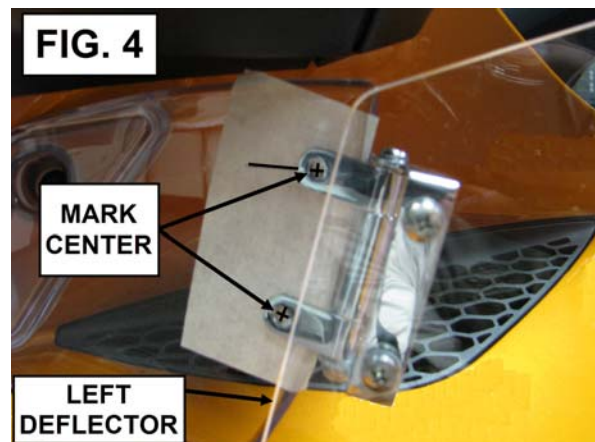

FIG. 4
5. TAKE THE LEFT ASSEMBLY AND HOLD IT ON THE FRONT OF THE OEM WIND DEFLECTOR AS SHOWN IN FIG. 4. LINE UP THE CENTER OF THE TOP HOLE WITH THE LINE YOU MARKED IN STEP 4. SLIDE IT IN SO THAT THE TUBE SPACER IS TOUCHING THE OUTSIDE EDGE OF THE OEM WIND DEFLECTOR.
6. USING A PENCIL OR PEN MARK THE CENTER OF EACH HOLE ON THE RT MOUNTS. SEE FIG. 4.